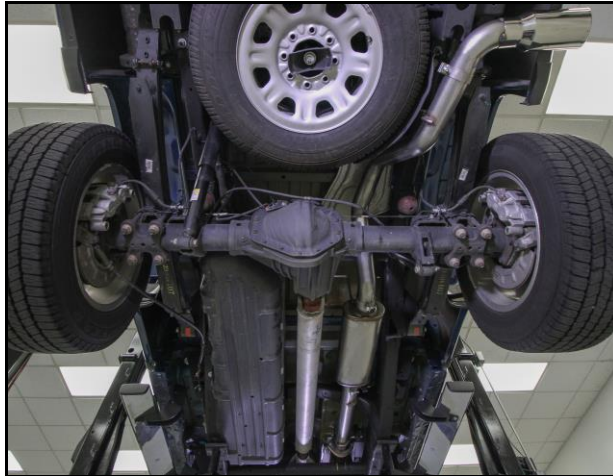

Figure 1
10. Align the BlackHeart Exhaust System and tighten all Hardware **(Figure 1)**.